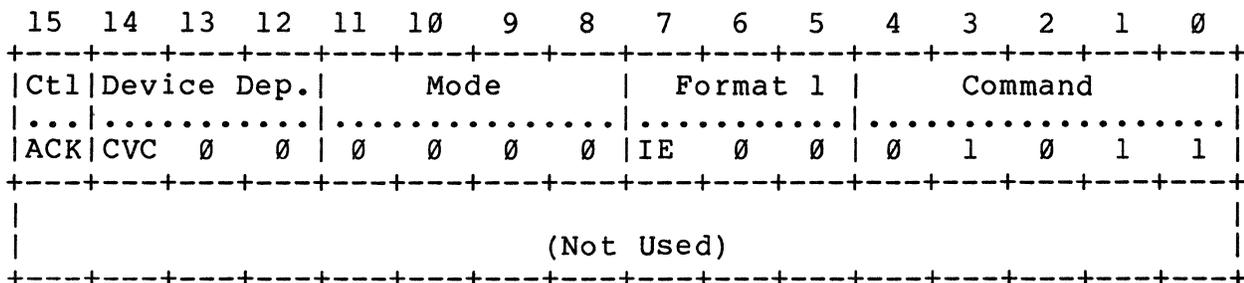

Figure 3-27 Initialize Command Packet
3.3.4.9 Initialize Command -- Figure 3-27 illustrates the Initialize command packet. If there are no microdiagnostic errors, this command is treated as a NO-OP. If there are errors present, however, the command performs the same as a write into the TSSR register. In either case, IFEN to the Tape Transport is pulsed to stop runaway commands.